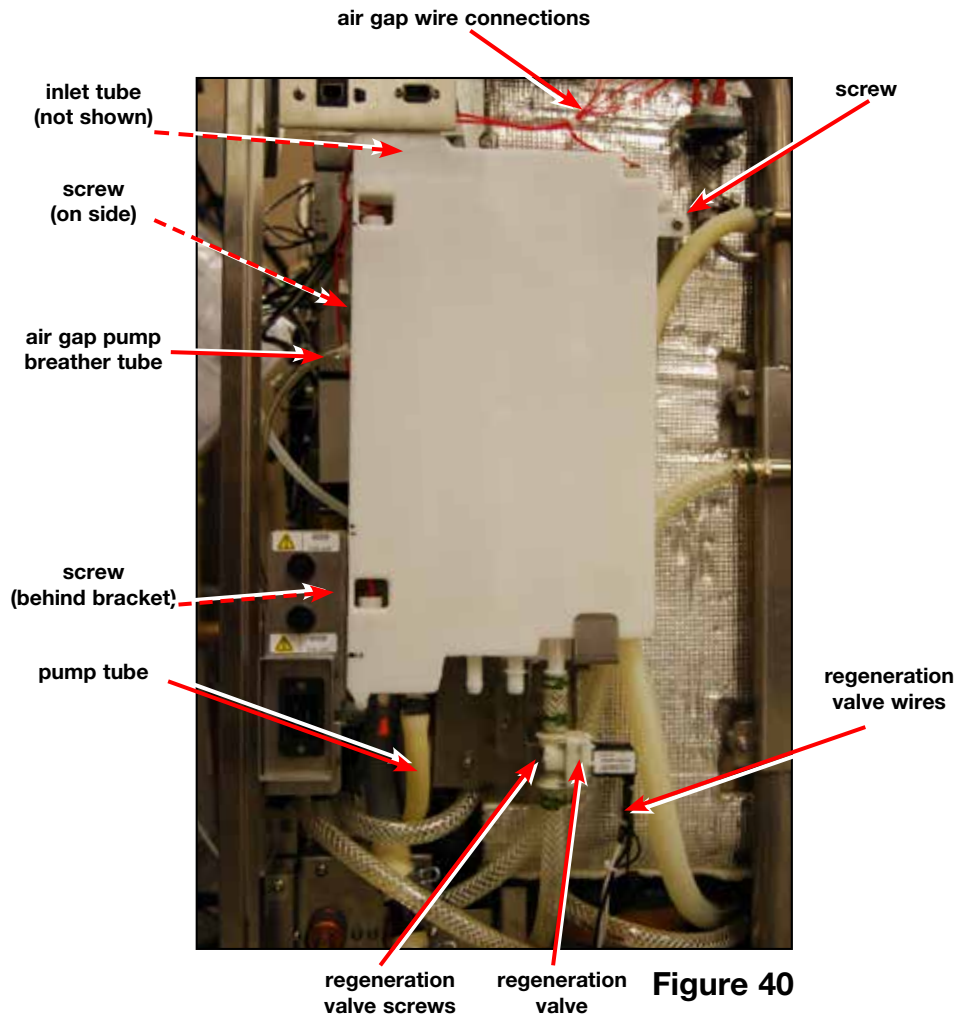

Figure 40
2. Disconnect the wires from the regeneration valve. (Figure 40)
4. Remove the 2 screws from the bracket. (Figure 40)